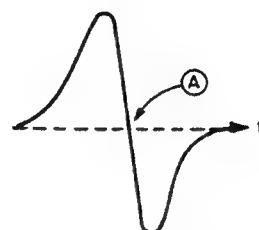

Fig. 4-8 S-Curve of the Focus
- At this time, the output voltage ⑪ changes from negative to positive.
- Furthermore, the S-curve of the focus at this time changes according to Fig. 4-8 below.
The Focus Servo is applied with Point A of Fig. 4-8 as its operating point. The Focus Search operation is performed and the Focus Servo SW is set to ON while Point A of Fig. 4-8 is being crossed. In order to also prevent malfunction, the logical product of the operation and the Focus OK signal is obtained.